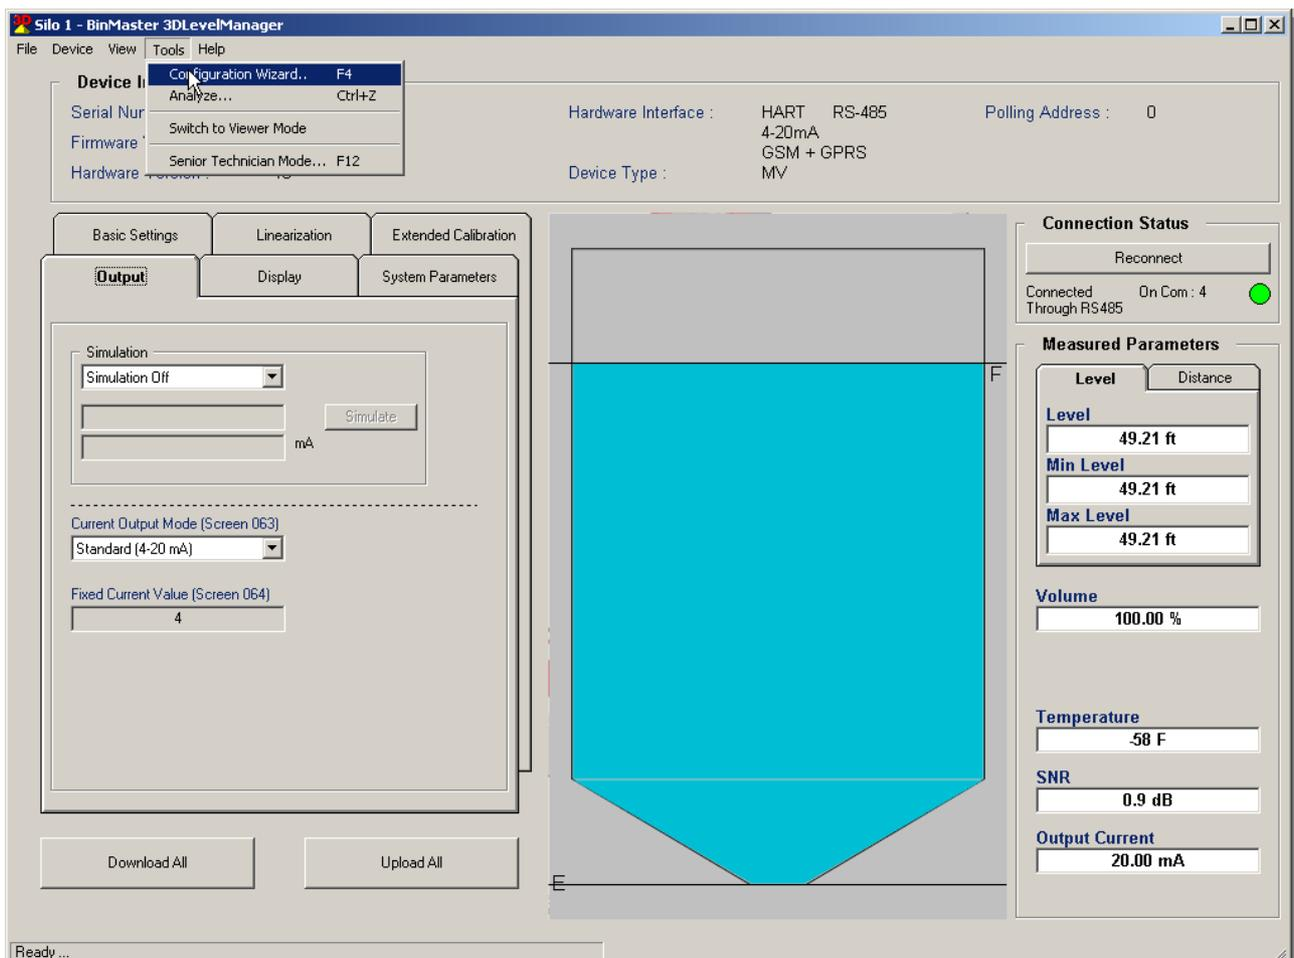

Figure 39 Starting the Configuration Wizard
1. Select **Tools > Configurations Wizard** (Figure 39).